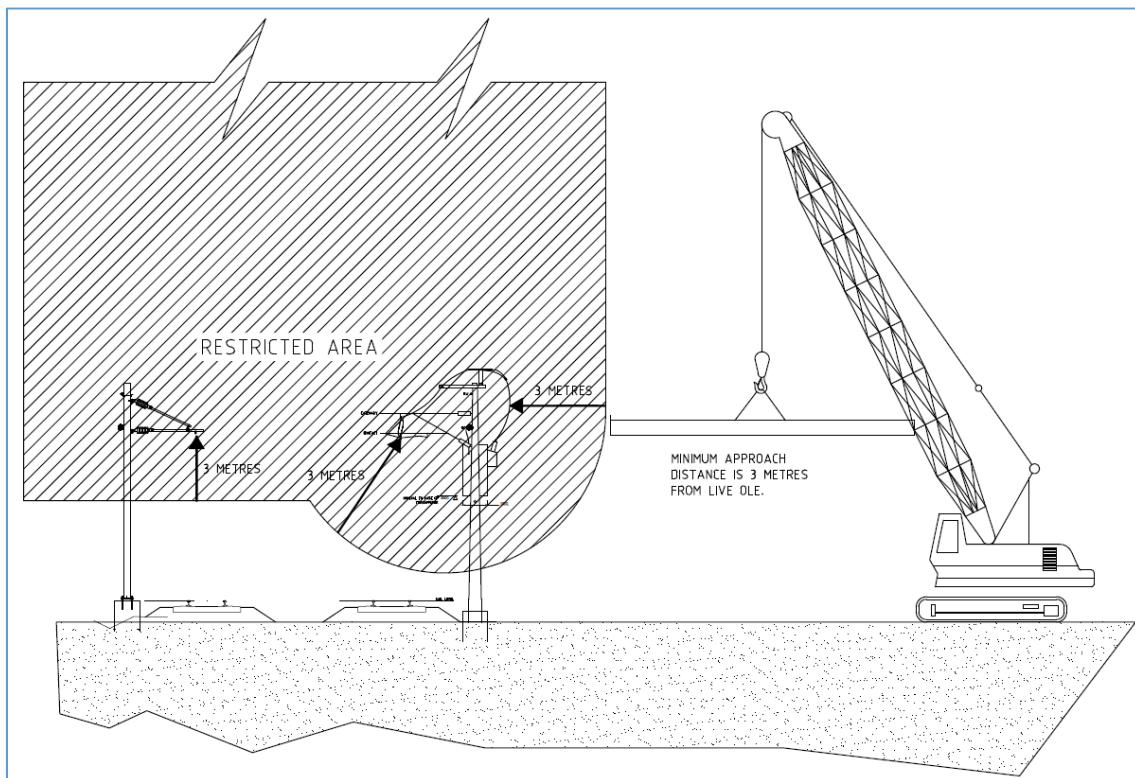

Figure 5.1: Minimum Approach Distance
To calculate distances for work involving cranes, take into account the potential of the load to swing. At all times, the load must be **greater than** three (3) metres from *Live OLE*. Nothing associated with crane work can be above *Live OLE*, unless an *OLE Permit to Work* is in place. Nothing associated with the crane work, including the load, can be in the restricted area illustrated in **Figure 5.1** below.